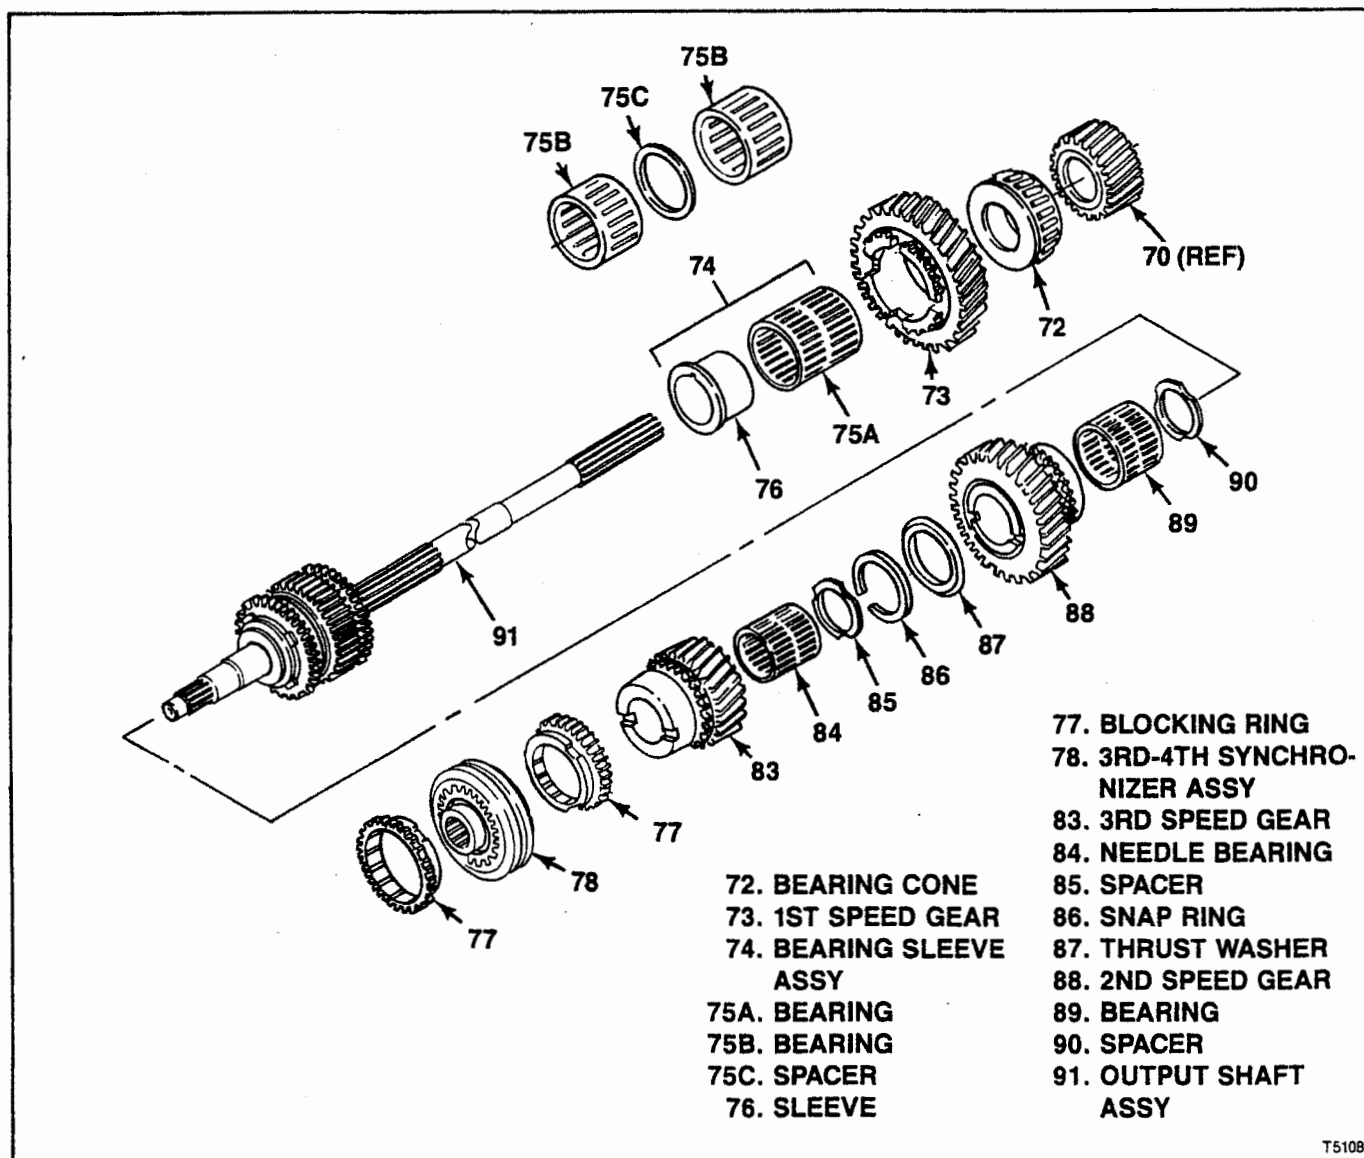

Figure 6-9. Assembly of T5 WC Output Shaft Assembly
6-11. ASSEMBLY OF T5 WC OUTPUT SHAFT GROUP. After assembly of output shaft assembly (91) as described in paragraph 6-10, proceed as follows (see figure 6-9):
a. Install spacer (90), bearing (89), 2nd speed gear (88), thrust washer (87) and snap ring (86).
b. Install spacer (85), bearing (84), 3rd speed gear (83) and one blocking ring (77).
c. Install 3rd-4th synchronizer assembly (78) (as assembled in paragraph 6-6), aligning notches in installed blocking ring (77) with synchronizer inserts. Use a suitable drift that bears on synchronizer hub only.
d. Install remaining blocking ring (77), aligning notches with inserts in installed 3rd-4th synchronizer assembly (78).
e. At other end of assembly, install sleeve (76) and 1st speed gear bearing as follows, according to type:
f. Install 1st speed gear (73) and bearing cone (72). Use 5th driven gear (70) and suitable drift to press bearing on cone until it is fully seated. Bearing cone is fully seated when shaft snap ring groove is accessible at outside end of 5th driven gear. Remove drift and 5th driven gear.